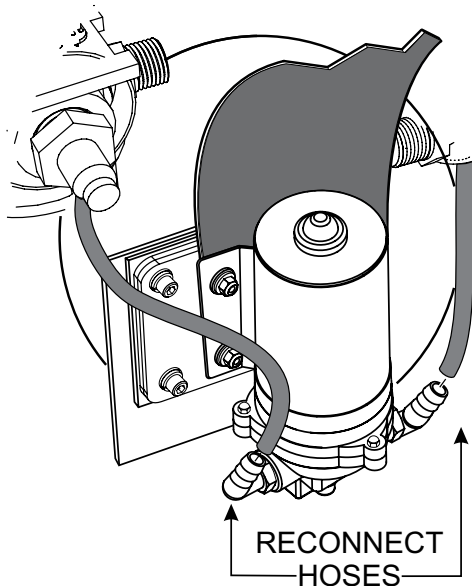

Figure 9. Water Hose Reconnection
1. Reconnect the water hoses (Figure 9) to the barb fittings on the inlet and outlet ports on the pump body.